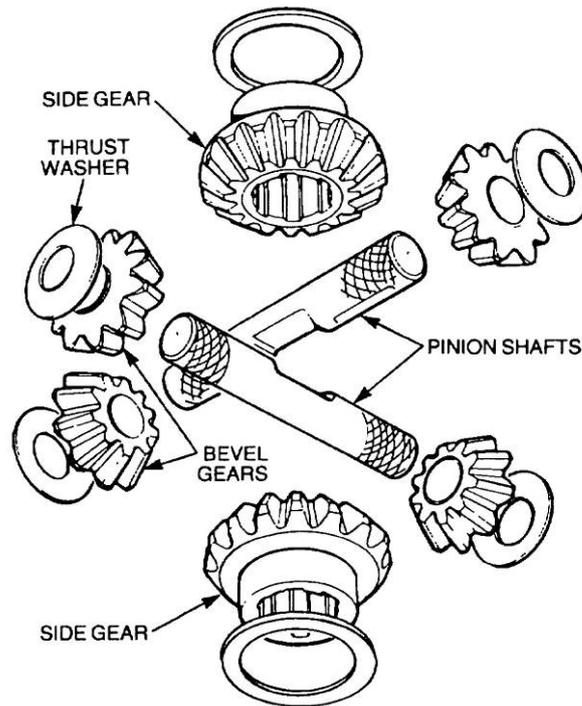

Figure 209 Removal of the Differential Gears
- t. Lift off the upper side gear (Figure 209), slide out the pinion shafts and remove the bevel pinions and thrust washers. Remove the lower side gear.